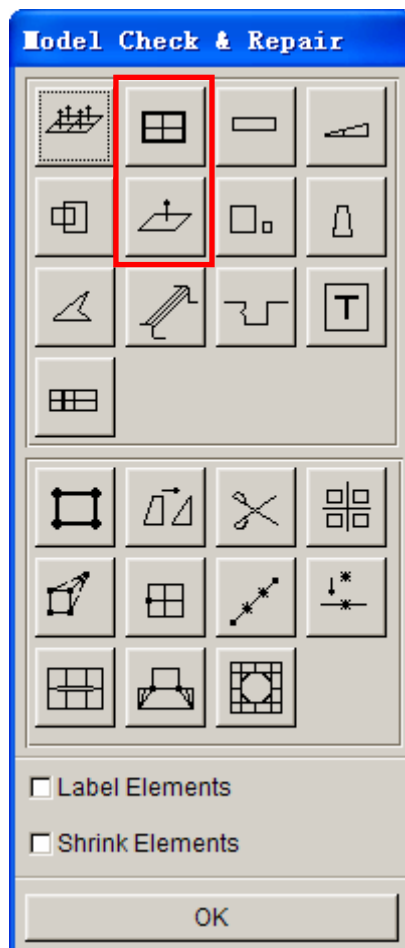

Figure 11 Model Check & Repair dialog box
1. Select **DFE→Preparation→MODEL CHECK/REPAIR** to display the **Model Check & Repair** dialog box illustrated in Figure 11.